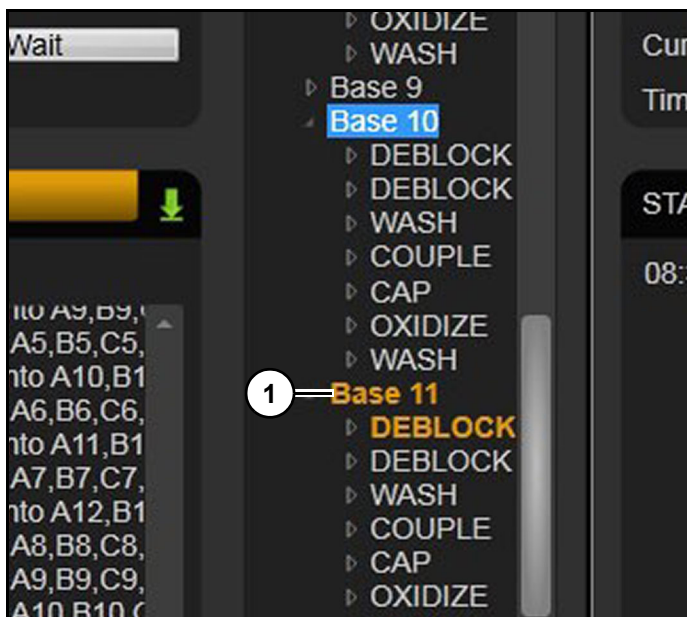

Figure 94
Once a pause is initiated, location of pause will be highlighted orange (1). (Figure 94)